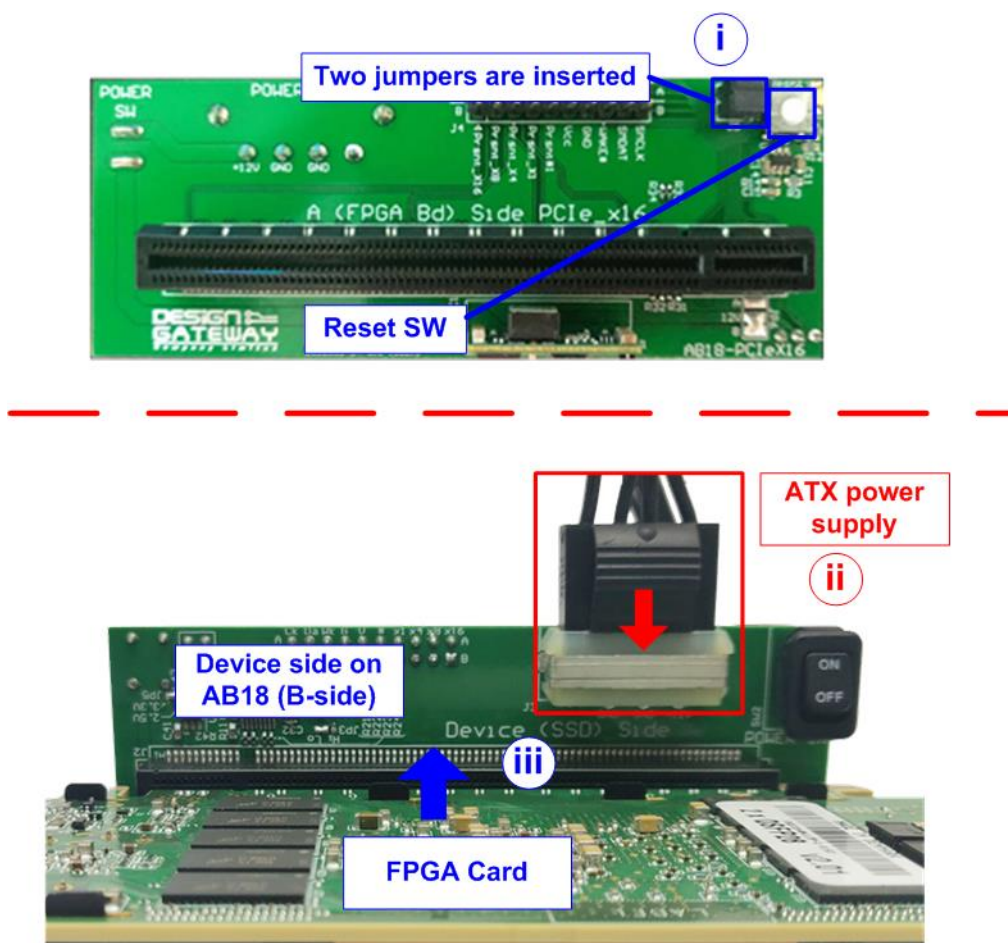

Figure 2-1 AB18-PCIeX16 connection for power supply of FB2CGHH@KU15P card
- iii) Connect PCIe connector on FPGA board to Device Side (B-Side), as shown in Figure 2-1.